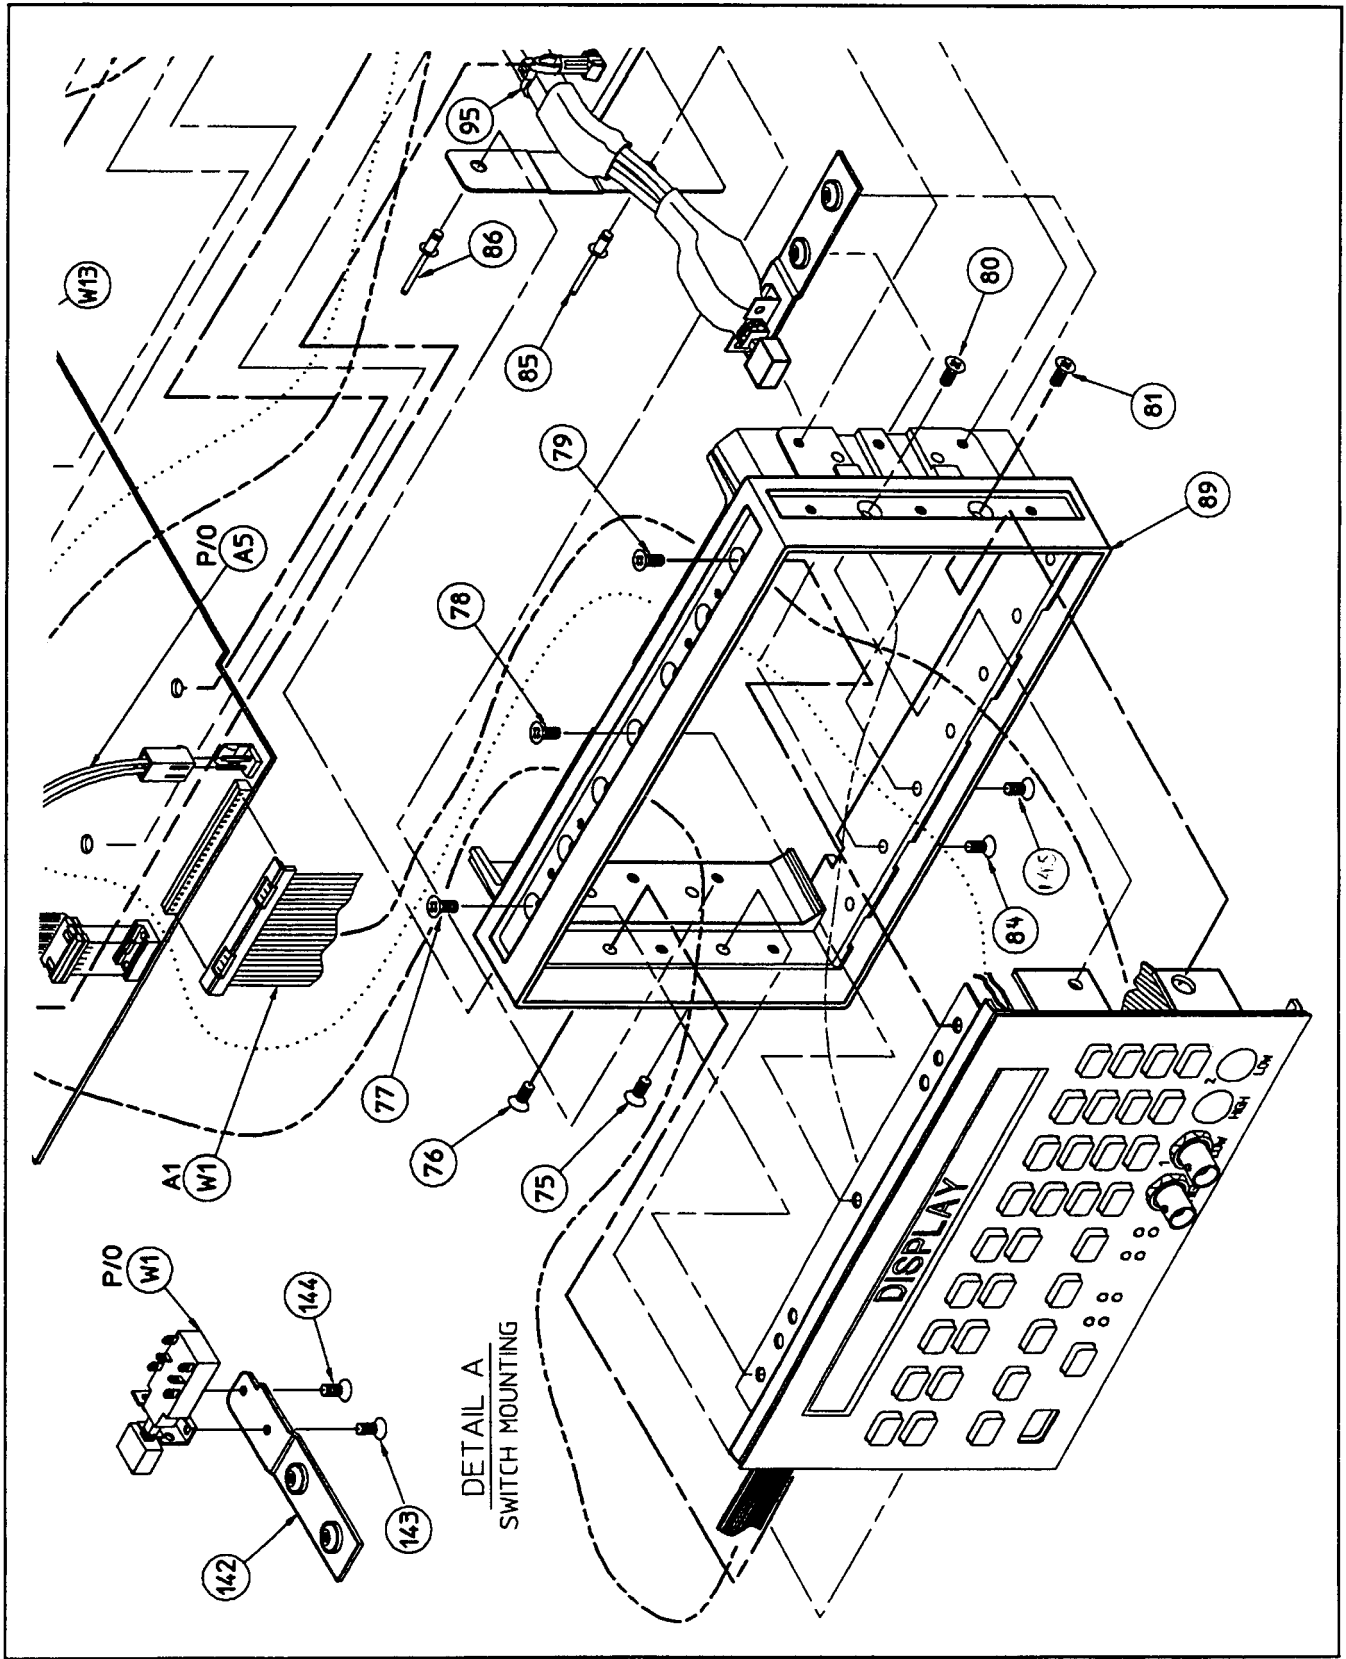

Figure 7-6. Front-Panel Assembly, (2923A and above)
*Refer to the figures in Section 6 of the HP 8904A Service Manual and figure 7-6 in this installation note for part identification and location.*
17. Install the line switch bracket supplied in the kit (HP 08904-00022, item 142 in figure 7-6, Detail A herein) on to the line switch using the two Pozidriv screws supplied in the kit (HP 0515-2028, items 143 and 144). Tighten the screws to 0.6 N·m (5 in·lb).
18. Install the line switch bracket on to the front frame using two of the screws (items 84 and 145 in figure 7-6) securing the old front panel to the frame (item 89). Do not tighten the screws at this time.